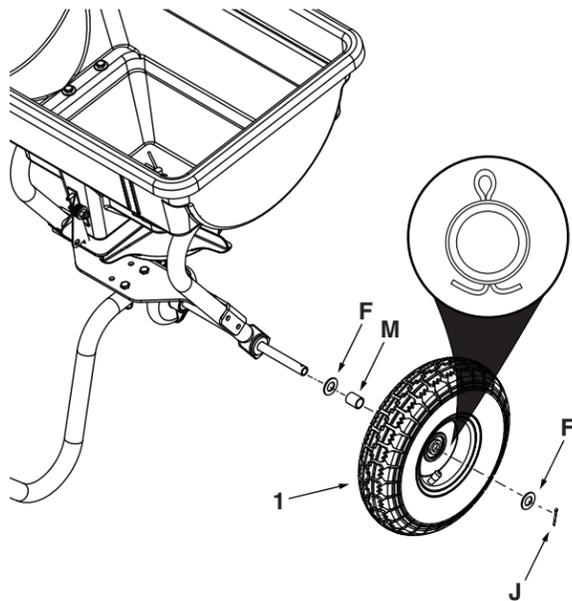

Figure 10
STEP 10: (SEE FIGURE 10)
- Attach a wheel to the right side by sliding onto the axle, a 17/32" washer (F), a plastic spacer (M), a wheel (1), another 17/32" washer (F) and secure with a 3/4" cotter pin (J) by bending the ends out.